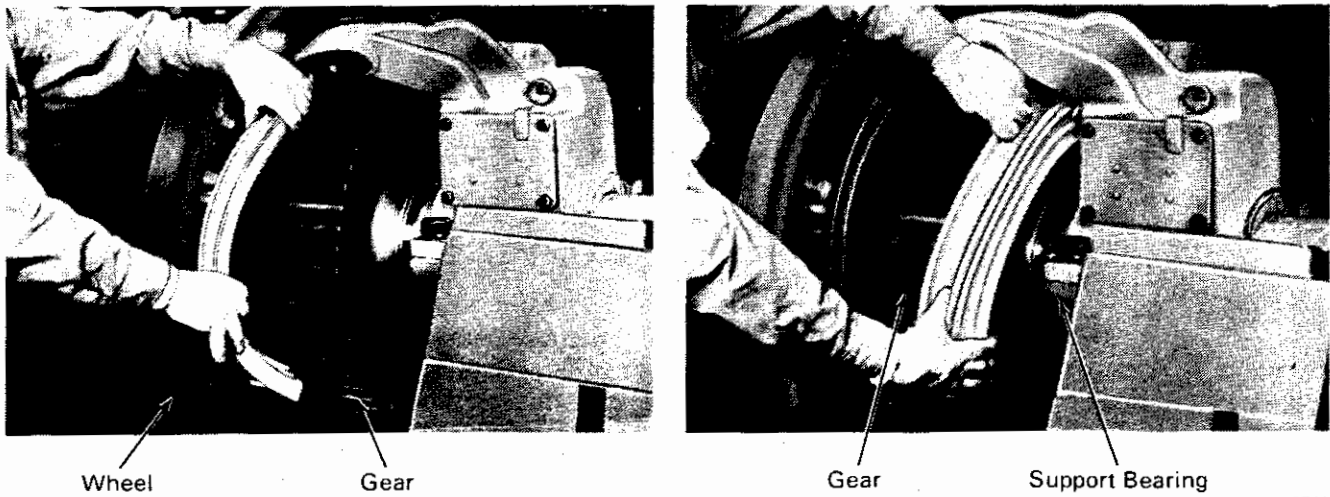

Fig.10 - Installing Plastic Seals
3. Install seals around the axle of the motor/axle assembly with outer seal between the gear and wheel and inner seal between the gear and support bearing, Fig. 10. The seals are flexible and can be twisted or "snaked" into position.